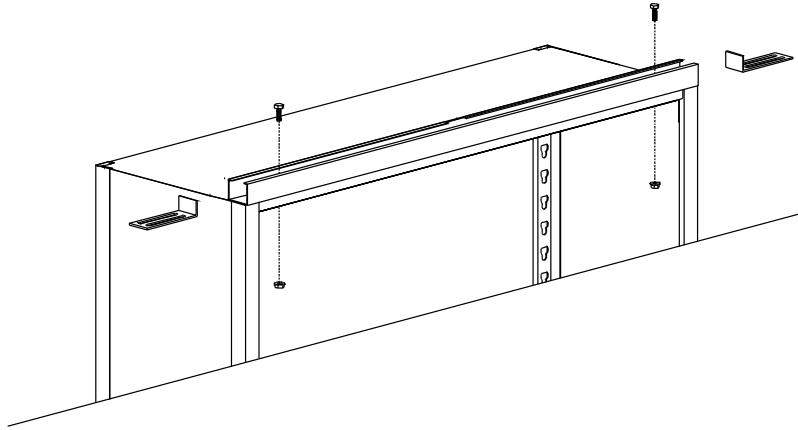

FIGURE 8
STEP 1.1 If the system is a single static carriage application; remove one (1) ¼ -20 x ¾ hex head bolt from the left and right side of the Stationary Top Channel. Insert Top Safety Stops to each end of the Stationary Top Channel. Re-install and tighten the ¼ -20 x ¾ hex head bolts. See Figure 8 .